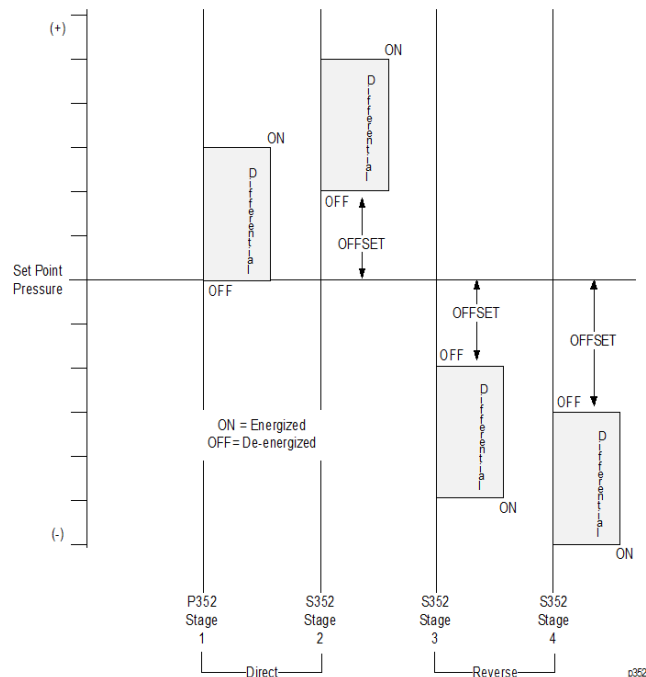

Figure 7: Typical Reverse Action/Direct Action Application Using One P352 and Three S352s
3. Adjust the differential potentiometer to the desired setting. (Refer to the typical multistage application in Figure 7.)